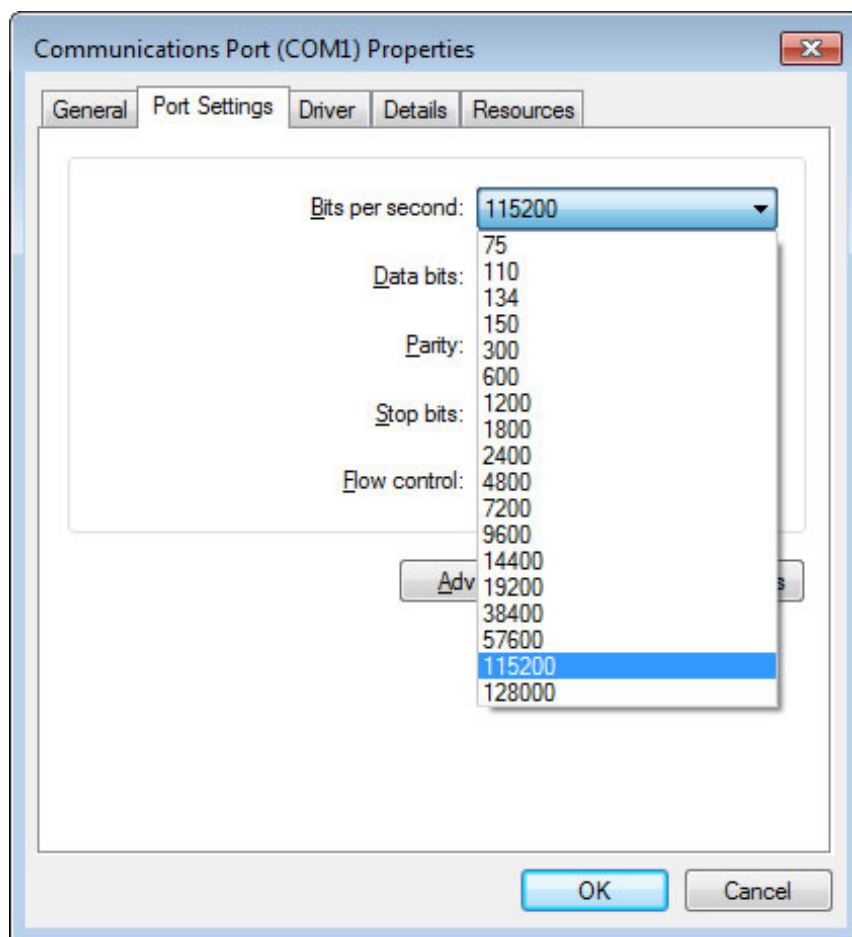

Figure 13. Setting the bits per second
7. From the Bits per second list, select one of the following (see Figure 13):